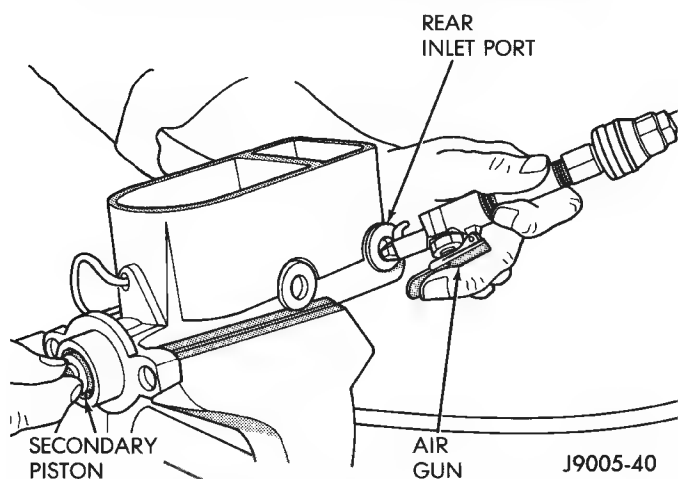

Fig. 6 Removing Secondary Piston Assembly
(5) Remove secondary piston (Fig. 6). Apply air pressure through rear outlet port to ease piston out of bore. Cover small ports at bottom of rear reservoir with towel to prevent air leakage.
(6) Discard secondary piston. Do not disassemble piston as components are only serviced as assembly.